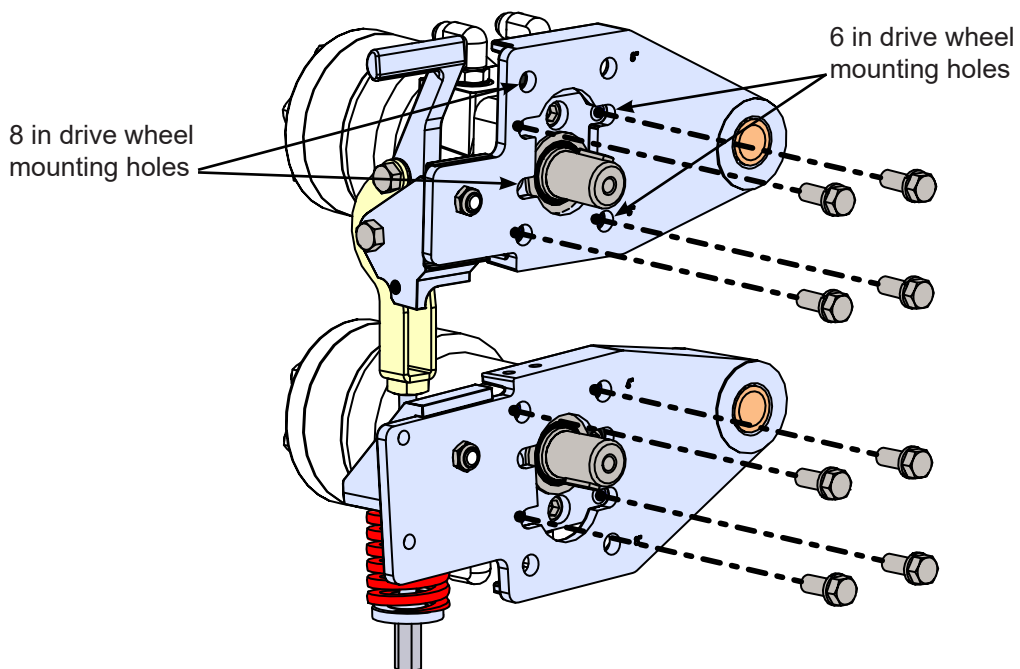

Figure 6. Remove Hydraulic Motor Bolts
13. Remove the four motor mount bolts and lock washers and remove the hydraulic motor (Figure 6).
1. Position the drive arm on the new hydraulic motor and align the mounting holes to the motor (Figure 6).